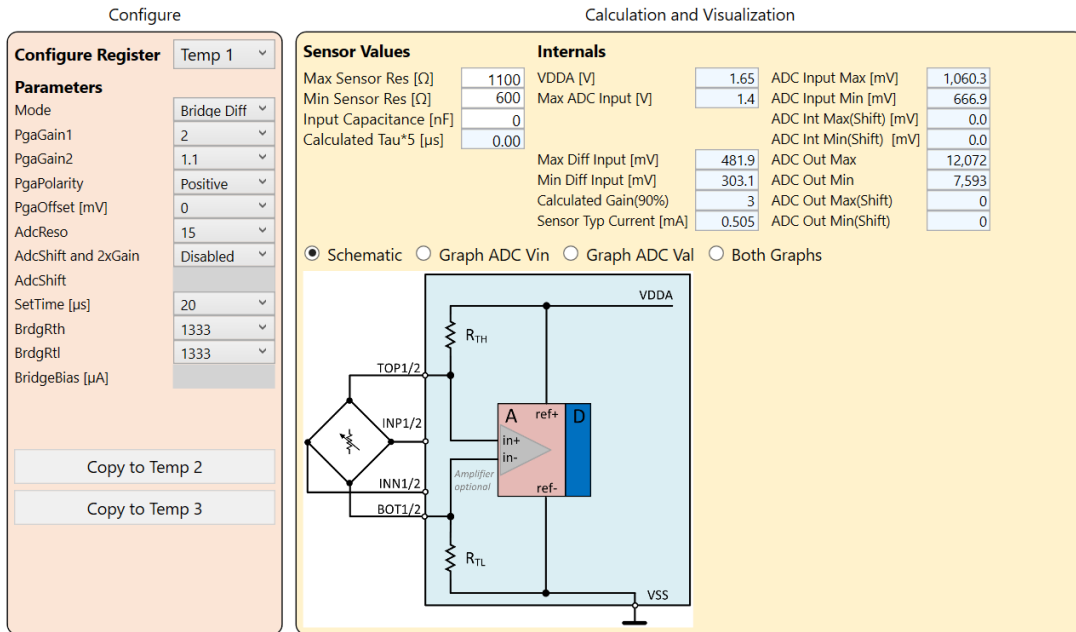

Figure 61. Mode Bridge Differential
- Bridge, Differential: The resistive bridge (used for the main measurement) is supplied through an internal configurable resistor tied to VDDA (RTH) and to VSS (RTL) (Figure 61).